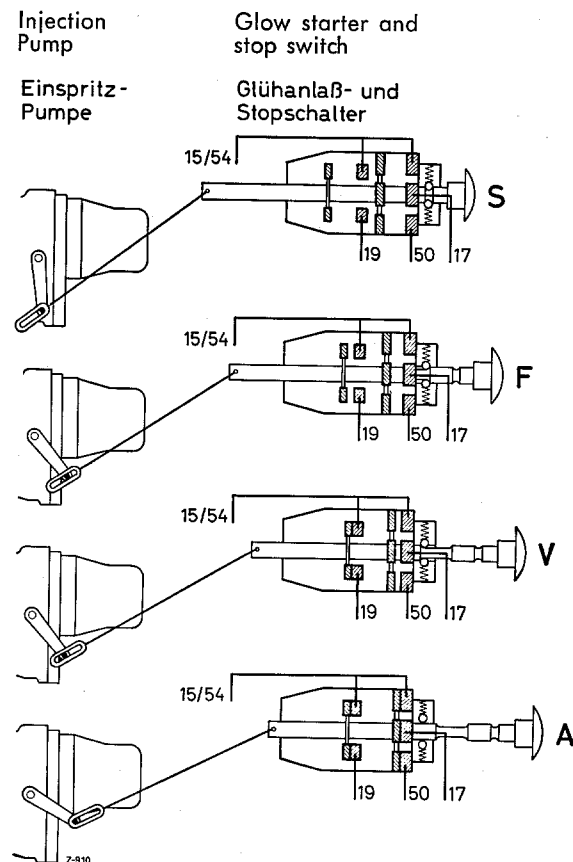

Figure 00-13/3
3. Pull the knob of the push pull switch completely outwards to the stop overcoming the slight resistance (**starting position**) whilst a second man checks at the same time the position of the control lever on the injection pump. In this position the pin of the control lever must contact the other side of the lug (contrary to the stop position) the control lever being completely drawn rearwards (see Figure 00-13/3, A = starting position).
4. Release the knob of the push pull switch, through its spring force the switch automatically moves to driving position. If in driving or pre-glowing position, the pin of the control lever must not contact either side of the lug (see Figure 00-13, F = driving position, V = pre-glowing position).